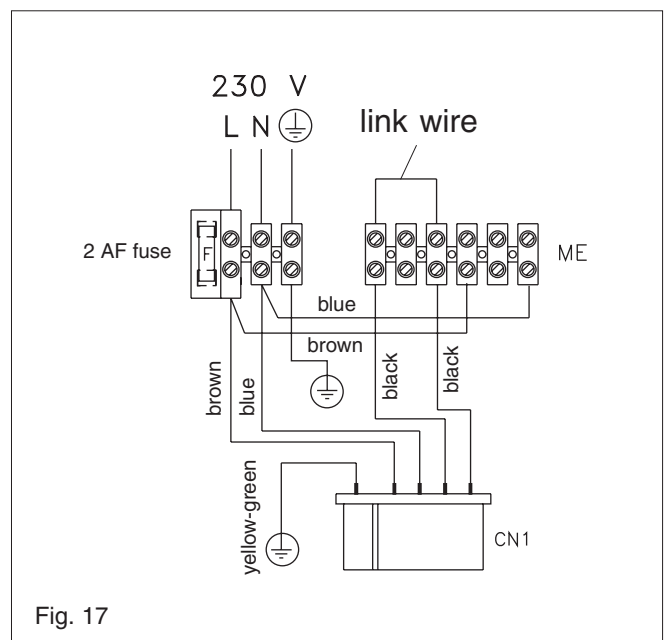

Fig. 17
4.7.3 CONNECTING THE MAINS (230V) INPUT (fig. 17)
Do not remove the "link wire" (fig. 17) unless additional external controls are to be fitted (see section 8). Re-fit the electrical input board cover. The securing screw on the cable anchorage should now be tightened. This must be done before the control fascia is re-fitted in.
Although the burner pressure is factory set, it is necessary to check it during the commissioning. Isolate the appliance from the electrical supply and attach a suitable manometer to the gas valve outlet test nipple (fig. 17). Light the boiler as described in 5.6 and compare the reading on the manometer with the value described in 2.2. If adjustment is required, follow the detailed instructions in section 7 (7.3). Once the burner pressure has been checked, isolate the appliance from the electrical supply, remove the manometer and tighten the gas valve outlet test nipple.
7.3 CHECKING AND ADJUSTING BURNER PRESSURE (fig. 17)